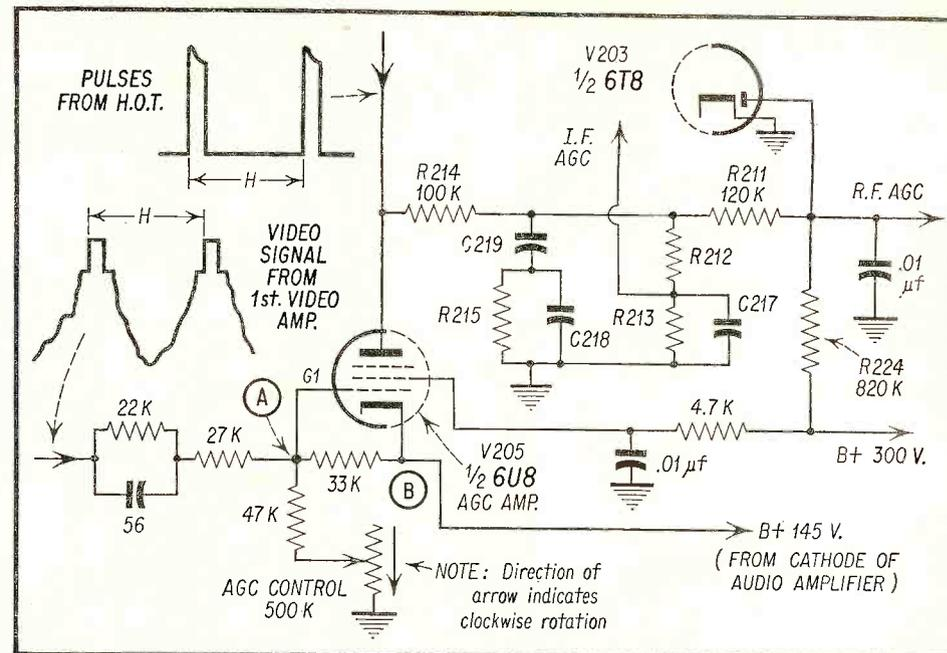
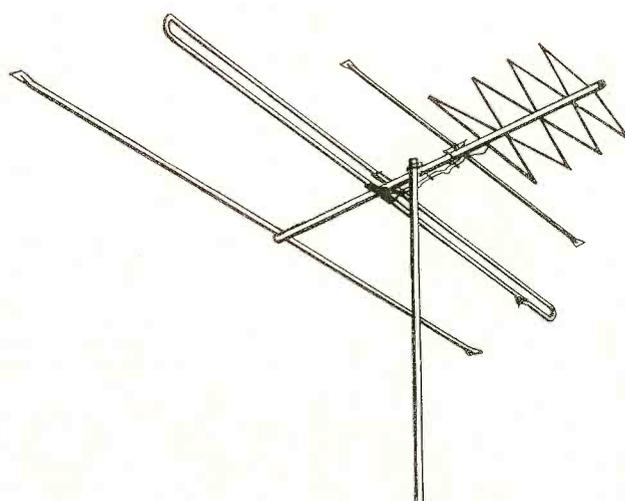
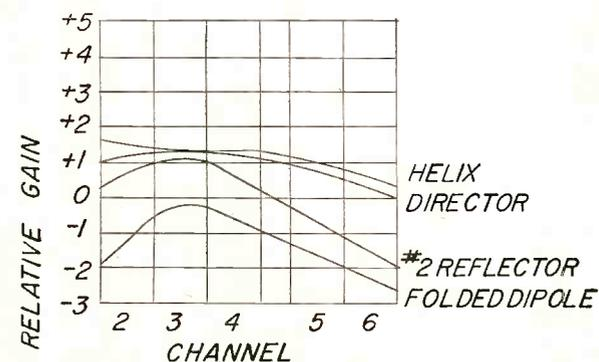

Fig. 2—Simplified schematic of AGC circuit used in RCA color receiver.
Fig. 2—The Junior-Helix, Model JX311, designed for average strong signal metropolitan areas.
Fig. 3—The reflector in the Junior Helix serves to bring up the gain on Channel 2.
A typical *agc* circuit used in color TV receivers is shown in Fig. 2. The video signal from the first amplifier is fed into G1 of V205 via the parallel combination comprising the 22K resistor and 56  $\mu\text{mf}$  condenser, both in series
Relative output *agc* voltages produced by a given signal amplitude for different settings of the *agc* control are shown in Fig. 3. The net *dc* operating points shown at (A) and (B) are the resultant grid to cathode voltages developed by the combined setting of the *agc* control, the plate voltage of the video amplifier, and the reference supply voltage (in Fig. 2 it is 145 volts).
In weak signal areas, the best setting of the *agc* control corresponds to (A) of Fig. 3. Under these conditions little plate current swing and corresponding *agc* bias is developed. In strong signal areas, the best setting of the *agc* control is in the vicinity of point (B). Under these conditions the *agc* sensitivity is much higher than at (A), and the same value of incoming signal will produce higher *agc* voltages than at (A). Thus, a strong signal will produce a very high
The first antenna in the NCB series is the Junior-Helix, model JX311 (Fig. 2). This was designed for use in average strong-signal metropolitan areas. The Junior-Helix uses a 4-turn helix for the high band. The low band element is a 300 ohm dipole cut for the video carrier of Channel 3. The reflector brings the gain up at Channel 2 (Fig. 3). The looped element in front of the folded dipole has a dual function. On the low band, it acts as a Channel 5-6 director, flattening the gain curve. On the high band, it acts as a